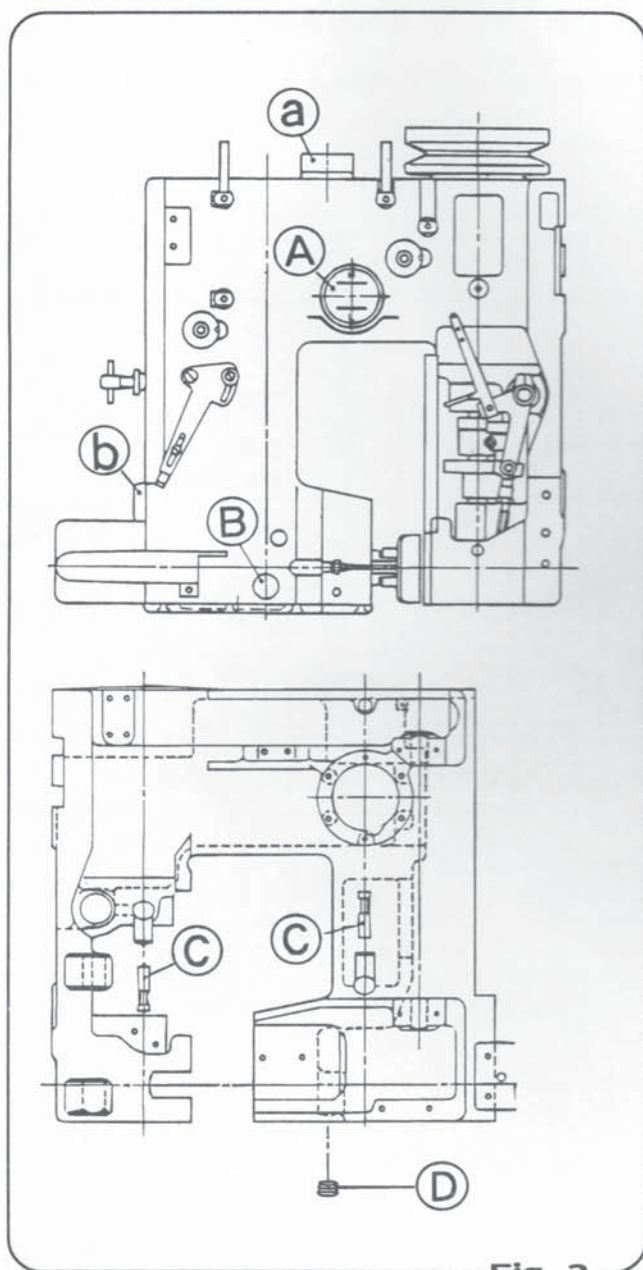

Fig. 2
- Unscrew breather cap a and fill with oil to between the maximum and minimum levels (A). Approximately 1,600cc should be used. (Fig.2)
- Remove cover (b) and fill with oil so that level reaches the 'red point' indicator (B). Approximately 140 cc should be used. (Fig.2)
As indicated (Fig.2) oil is drained from the machine by rotating and un-plugging. (C, D).
- 往(A)注油口儿加油,请拧开注油盖(a)后,加油直到油上面到“H”水准标记为止。注油量约 1,600cc (图2)
- 往(B)注油口儿加油,请拧开注油盖(b)后,加油直到油上面到红色圈为止。注油量约 140cc (图2)